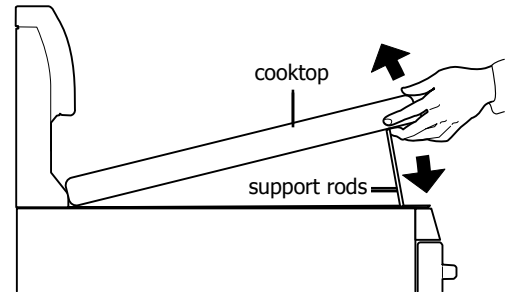

Fig. 1
1. Grasp the sides and lift from the front (See Fig. 1). Lift-up rods will support the top in a raised position. Only lift the cooktop far enough to allow the support rods to snap into place.